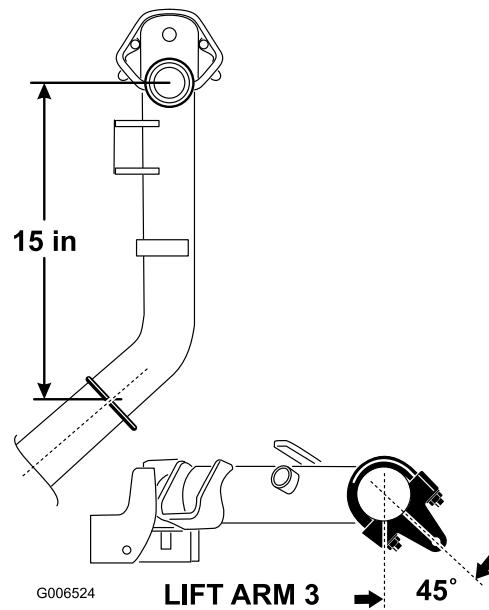

Figure 10
2. On lift arms #2 and #3, position the brackets and U-bolts 381 mm (15 inches) behind the center line of the pivot knuckle (Figure 10). Rotate the brackets 45 degrees to the outboard side of the machine.